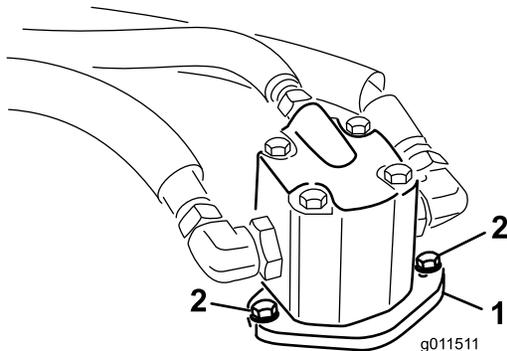

Figure 78
- Remove the bolts securing the hydraulic motor to the mower deck (Figure 78).